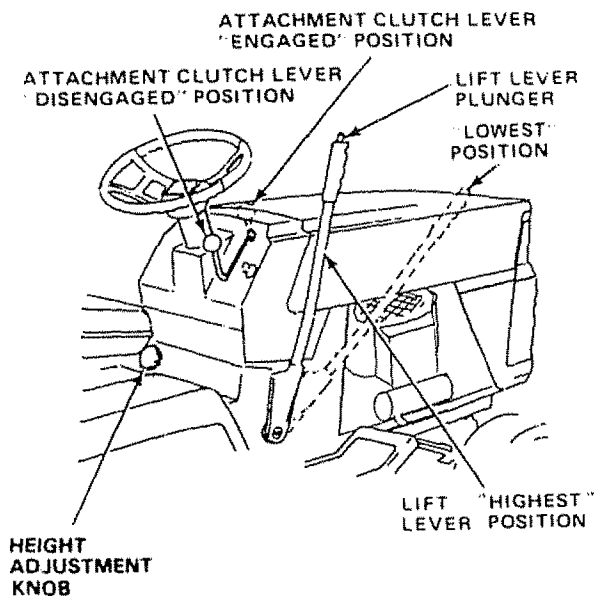

FIGURE 13
- Select desired height of cut position using height adjustment knob (Fig. 13).